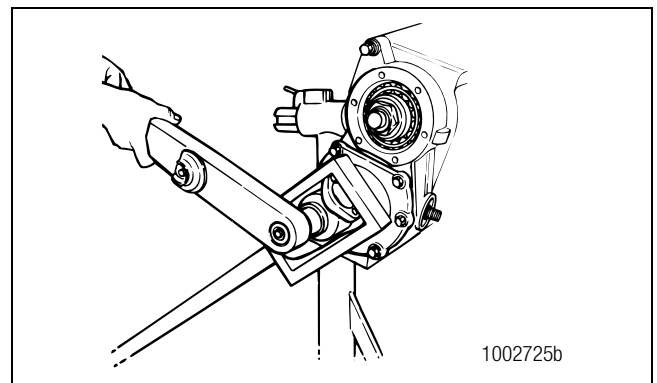

Figure 3.20
4. Use the correct tool to hold the input yoke or flange. Loosen, but do not remove, the nut that fastens the yoke or flange to the input shaft. Figure 3.20.